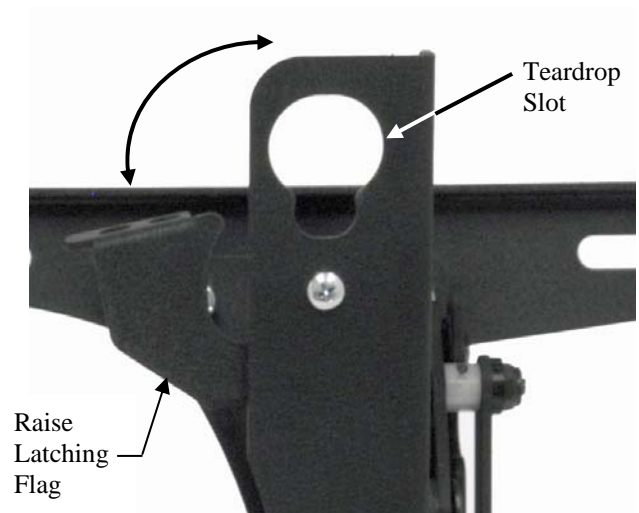

Figure 6. Raise Latching Flag to Lock
2. Raise the latching flag (2 places) to secure the display (see Figure 6). If the flag does not fully engage, check to ensure the mounting buttons are fully seated in the slots.
2. Lower the latching flag to unlock the display (refer to Figure 6).